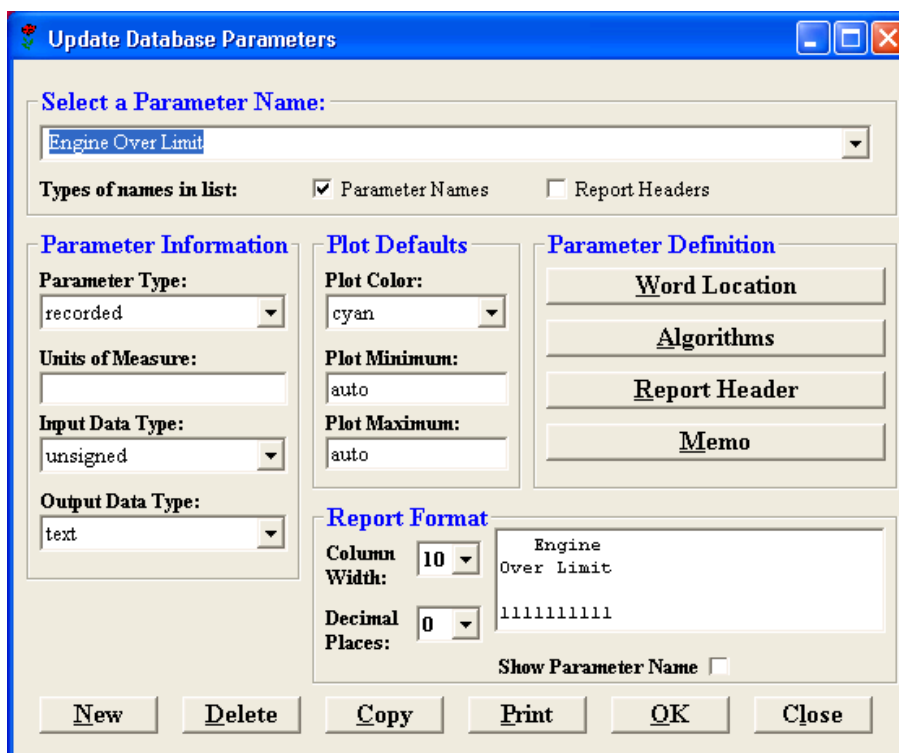

Fig. 1
- According to the Maintenance Manual (MM) work procedure, chap. 024.40.00.B, disconnect the external power supply plug.
- According to the MM work procedure, chap. 027.00.00, item 4.E.(2), remove the detachable cover from the vertical channel.
- According to the MM work procedure, chap. 027.00.00, item 4.E.(3), open the panels of the ceiling bay in the passenger cabin.
- Remove the RH tilting ceiling panels by pulling out the clips – see the MM, chap. 025.23.00, Fig. 1, pos. 7.
- Remove the RH light panels – see the MM, chap. 025.23.00, Fig. 1, pos. 10.
- Remove the RH cover panel – see the MM, chap. 025.23.00, Fig. 1, pos. 13.
- According to the MM work procedure, chap. 027.00.00, items 4.E.(4), (5) remove the cover from the bulkhead No. 21 and install the B596 331N assembling floor into the bay behind the bulkhead No. 21.
- Disconnect and blind the 382K wire from position 61 of the FA 2200 FDR J1B connector, and next the 385K wire from pos. 68 and 394K wire from pos. 80 (if installed) according to the B573 949X sheet 3 wiring diagram. Disconnect wires by means of white half of tool pos. 1 from material of point 3.B. of this bulletin.
- According to the MM work procedure, chap. 020.01.03 and B574 832X sheet 1 wiring diagram install diodes and resistors to the K109 and K111 terminal blocks on the bulkhead 21. Use material pos. 2, 3, 4, 5 of point 3.A. of this bulletin.
2. Overwrite *Water Injection* to *Engine Over Limit* according to the Fig. 1. Click “OK” to confirm.
7. Check window "Update Database Parameters" according to the Fig. 1. Click "OK" to confirm.
- According to the MM work procedure, chap. 027.00.00, item 4.E.(18) remove the B596 331N assembling floor from the bay behind the bulkhead No. 21.
- According to the MM work procedure, chap. 027.00.00, item 4.E.(19) install the cover on the bulkhead No. 21. Close the small door (FDR) on this bulkhead.
- Install the RH cover panel – see the MM, chap. 025.23.00, Fig. 1, pos. 13.
- Install the RH light panels – see the MM, chap. 025.23.00, Fig. 1, pos. 10.
- Install the RH tilting ceiling panels – see the MM, chap. 025.23.00, Fig. 1, pos. 7. According to the MM work procedure, chap. 024.00.00, page 307, check the locking of the ceiling panels clips.
- According to the MM work procedure, chap. 027.00.00, item 4.E.(20), close the ceiling panels in the passenger cabin.
- According to the MM work procedure, chap. 027.00.00, item 4.E.(21), install the detachable cover on the vertical control channel at the frame No. 7.